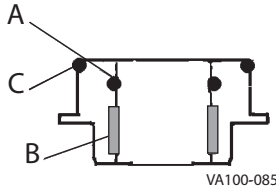

Figure 35 - Standard Lower Bearing Carrier
1. Remove and replace the O-ring(s) (Figure 35, item A) located inside the lower bearing carrier. For the flush/steam barrier adapter, see Figure 6 on page 13.
2. Check the split bearing (Figure 35, item B) inside the lower bearing carrier by feeling the amount protruding from the lower bearing carrier wall. If the bearing is flush with the wall, replace the bearing.
7. To remove the outer O-ring (Figure 35, item C), slide or cut the O-ring off the lower bearing carrier. Do not nick or scratch the O-ring groove.